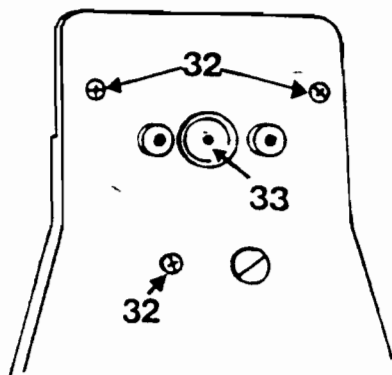

FIG. 10
Remove three screws at (32) Fig. 10.
Remove brass washer (33) Fig. 10. to expose seal. Carefully prise out the push rod seal and replace with new seal.